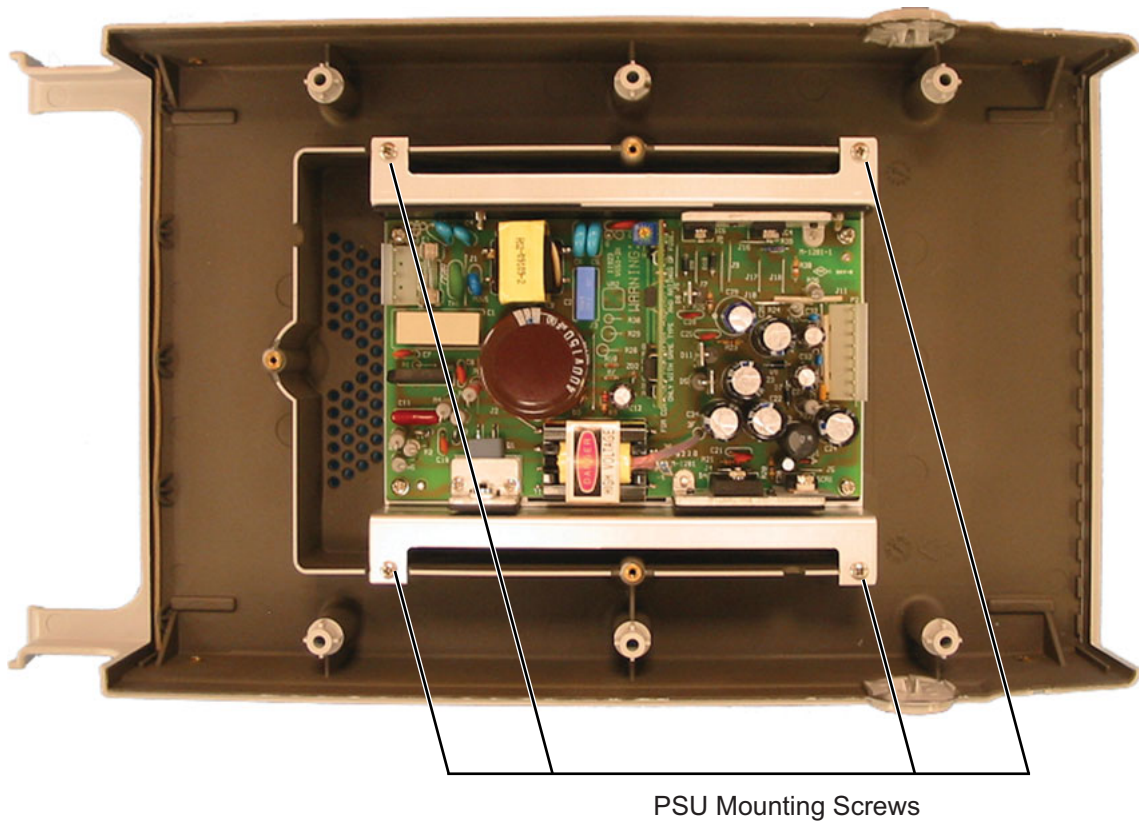

Figure 6-12. PSU Removal
1. Remove the four screws that hold the PSU mounting bracket in the lower case as shown in Figure 6-12. Lift the PSU out of the lower case.